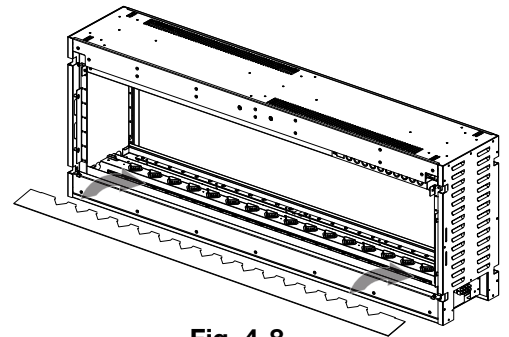

Fig. 4-8
- D. Install the media tray, ensuring to NOT re-install the screws as they can cause the media tray to bow when heated (**Fig. 4-8**).